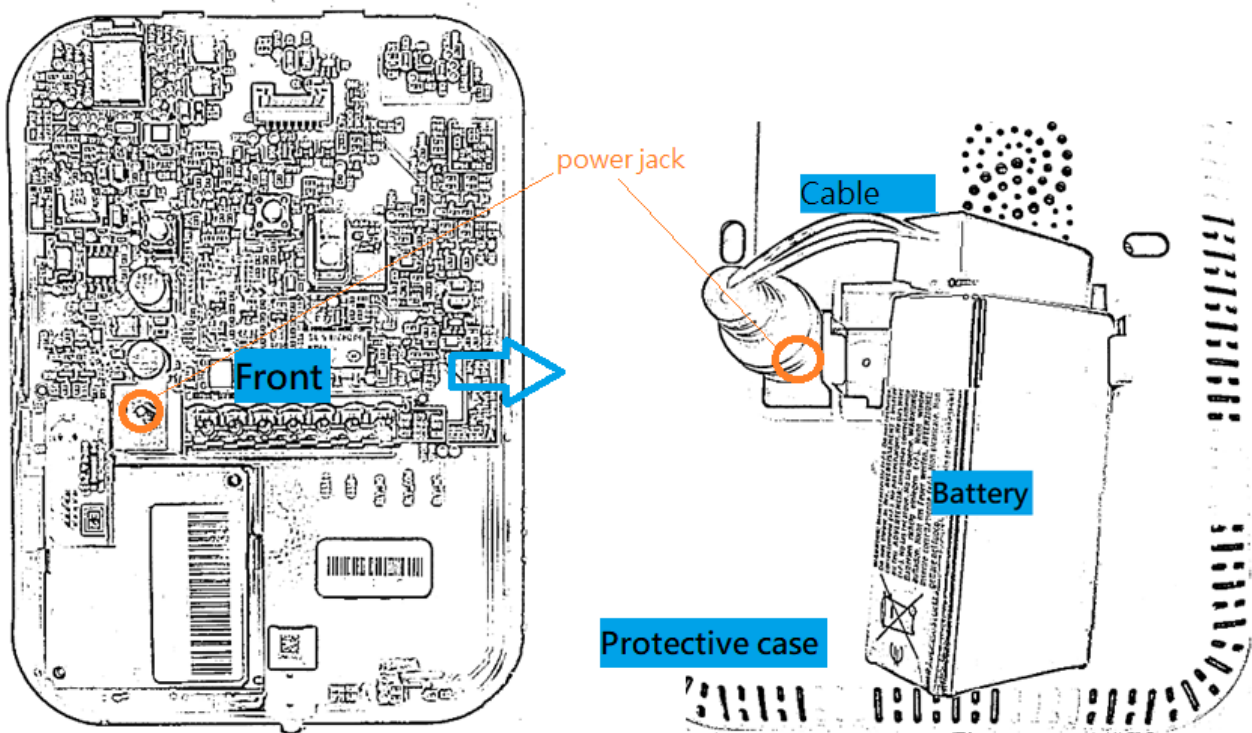

Fig. 4
3. Take the front part and assemble it with protective case, power cable, and battery. (Fig. 4)